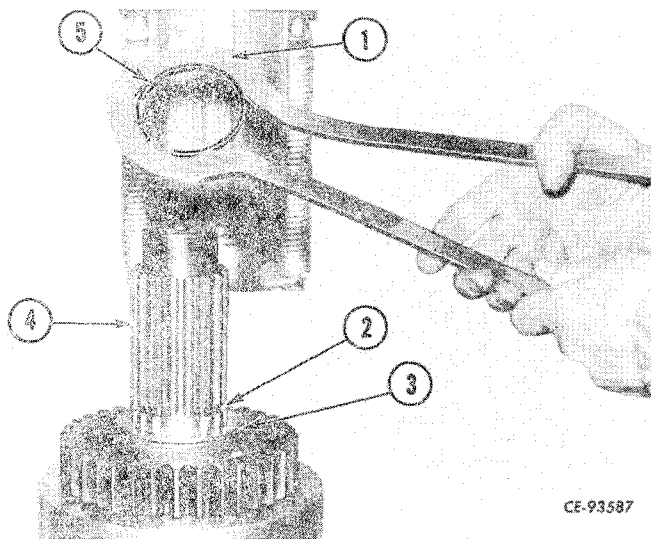

Figure 4-138
Install washers (3, Fig. 4-138) on shaft (4) with grooves toward gears. Insert lock ring (5) in lock ring compressor (1) (refer to "SPECIAL TOOLS") and install in groove (2).